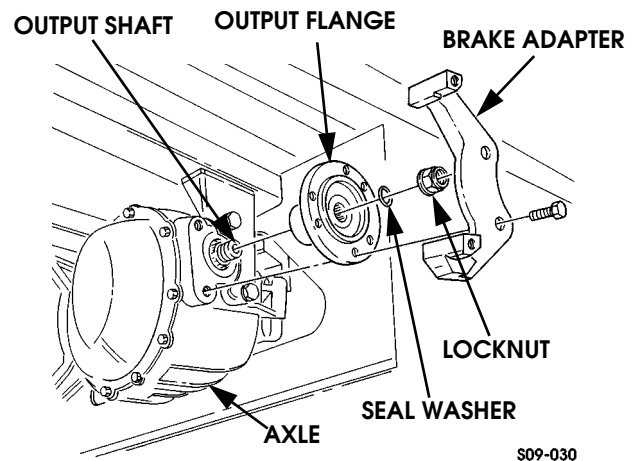

Figure 9-149: Brake Adapter and Output Flange Replacement
2. Remove locknut, seal washer, and output flange from output shaft. Discard seal washer (Figure 9-149).
4. Apply thread-locking compound to tapped holes of axle and install brake adapter on axle with two bolts. Tighten bolts to 110-139 lb-ft (149-189 N•m) (Figure 9-149).